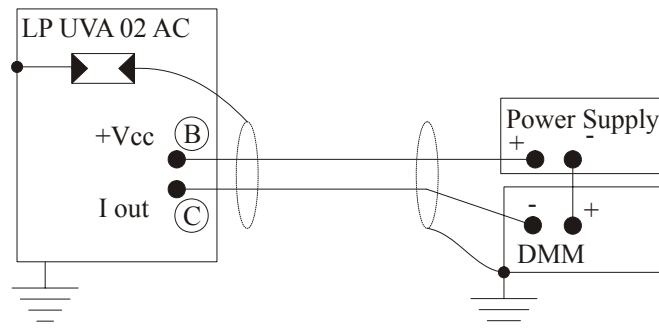

Fig. 8
- LP UVA 02 AC is to be connected to a DMM and a power supply as show below (Figure 8). To read the signal, the load resistance must be  $\leq 500\Omega$